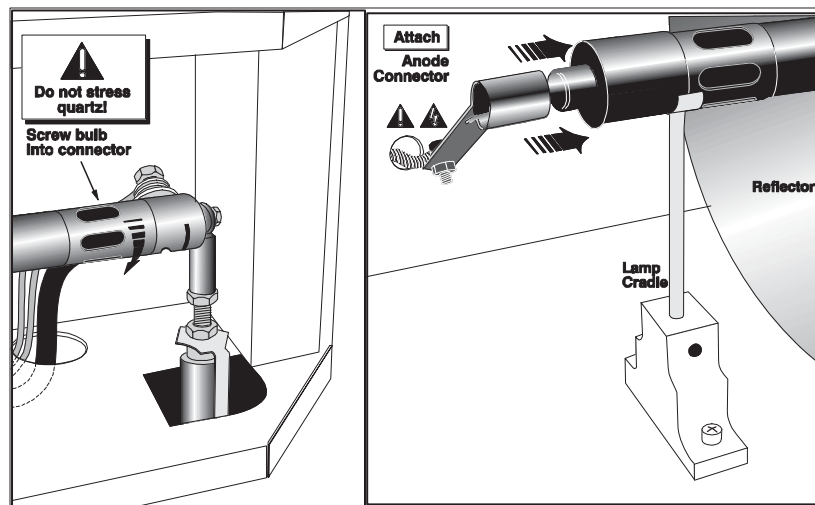

Figure 4-1 Install Bulb
- a. With protective clothing and face shield on, insert the threaded cathode (-) end of the lamp into the negative lamp connector nut located in the rear of the lamp compartment and screw in fully (refer to Figure 4-1, left portion). Hand-tighten only.
- b. Rest the anode (+) end of the lamp on the lamp cradle as shown in Figure 4-1, right, and slip the positive lamp connector over the bulb end.